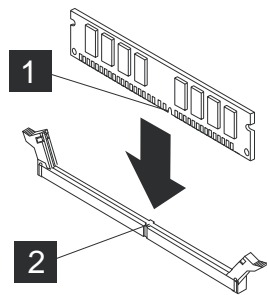

Figure 20. Installing the memory module
1. Position the replacement memory module **1** over the memory connector. Be sure the notch on the memory module aligns correctly with the connector key **2** on the memory connector. See Figure 20.